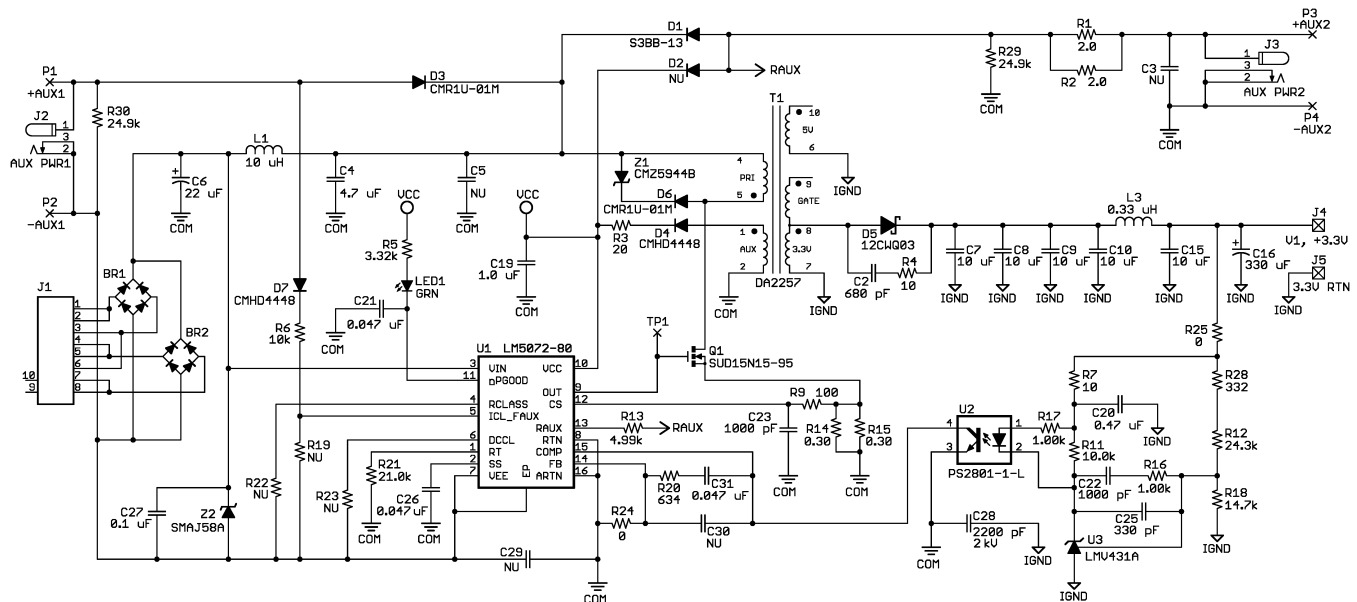
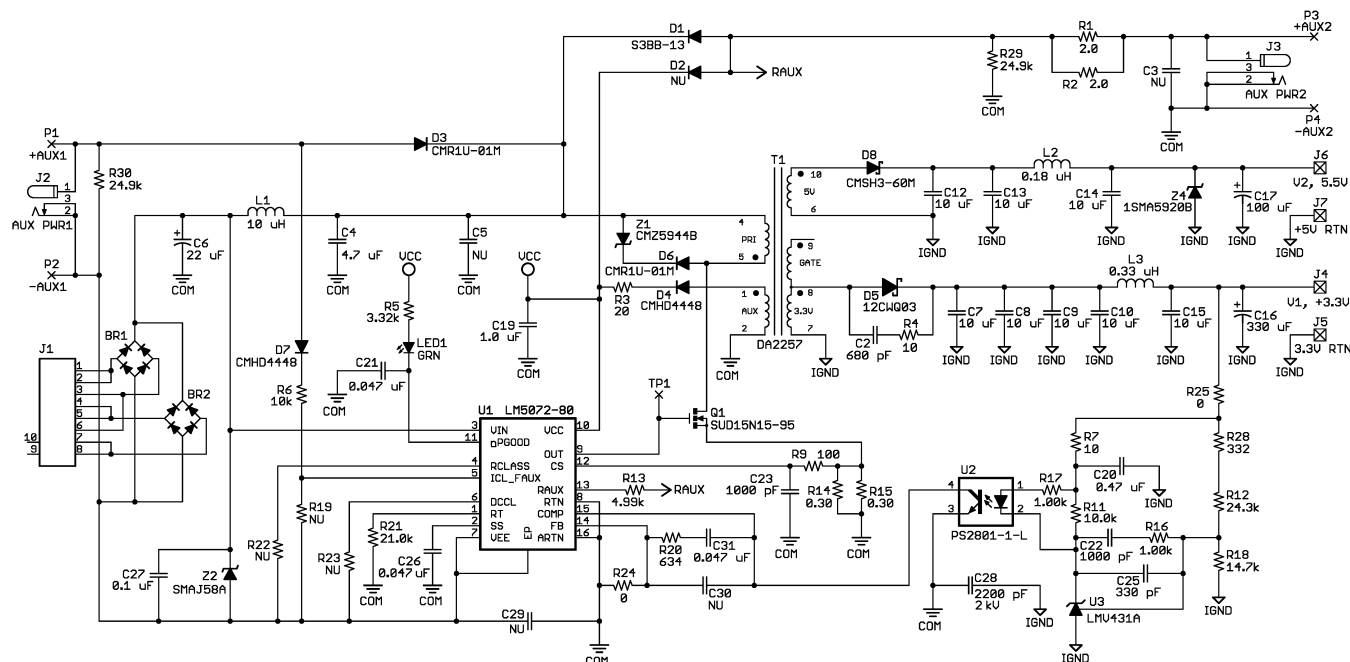
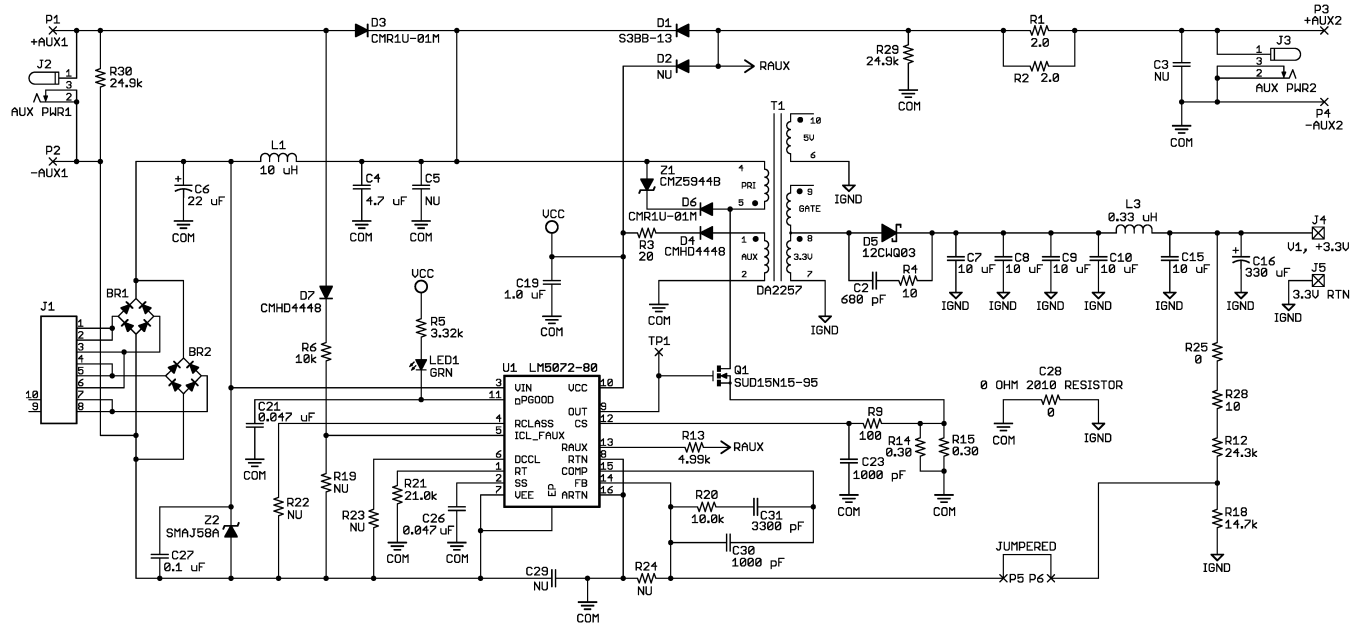

Figure 31. PD with Isolated, Single Output Solution
Figure 32. PD with Isolated, Dual Output Solution
Figure 33. PD Solution with Non-Isolated Flyback Topology
Before processing the Printed Circuit Board (PCB) layout, the engineer should make all necessary adjustments to the schematic to suite the application. The reader may notice that the LM5072 evaluation board is designed with dual outputs, both FAUX and RAUX power options, and some re-configuration flexibility features (refer to Figure 32). However, many devices can be removed for a particular application. Recommendations on simplifying Figure 32 to suit a given application are as follows:
6. Jumpers P5 and P6 (Figure 33) should be deleted from the schematic completely, being replaced by a short connection for an isolated application, or by an open for a non-isolated application.
Figure 31 shows an application example of a single isolated output solution for the PD. Both front auxiliary (FAUX) and rear auxiliary (RAUX) power options are given, although only one option may be needed in practice. Note that for the RAUX option, D2 is only installed when the supply voltage of the auxiliary power source would cause the V_{IN} voltage to be below 14.5V.
Figure 32 shows an example of an isolated, dual-output solution for the PD. The 3.3V output is tightly regulated while the 5V output is cross-regulated. Both front auxiliary (FAUX) and rear auxiliary (RAUX) power options are given, although only one option may be needed in practice. Note that for the RAUX option, D2 is only installed when the supply voltage of the auxiliary power source is lower than 14.5V.
Figure 33 shows an application example of the non-isolated version of Figure 31. This non-isolated version saves many parts used in the isolated feedback example shown in Figure 31. Similar simplification also applies to the non-isolated version of Figure 32.